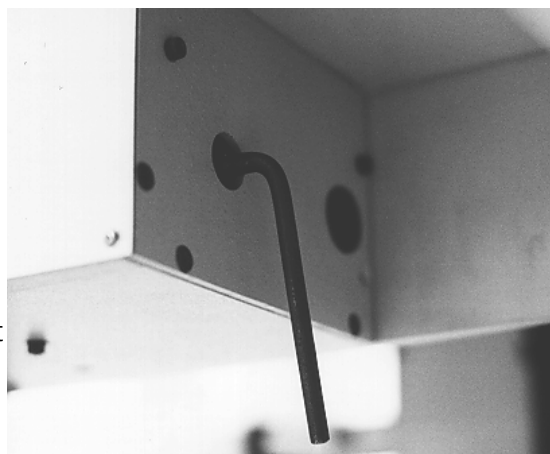

Figure 4-2
1. With the machine power ON and stopped, insert the index adjustment tool into the hole in the right side of the color change box (refer to Figure 4-2).